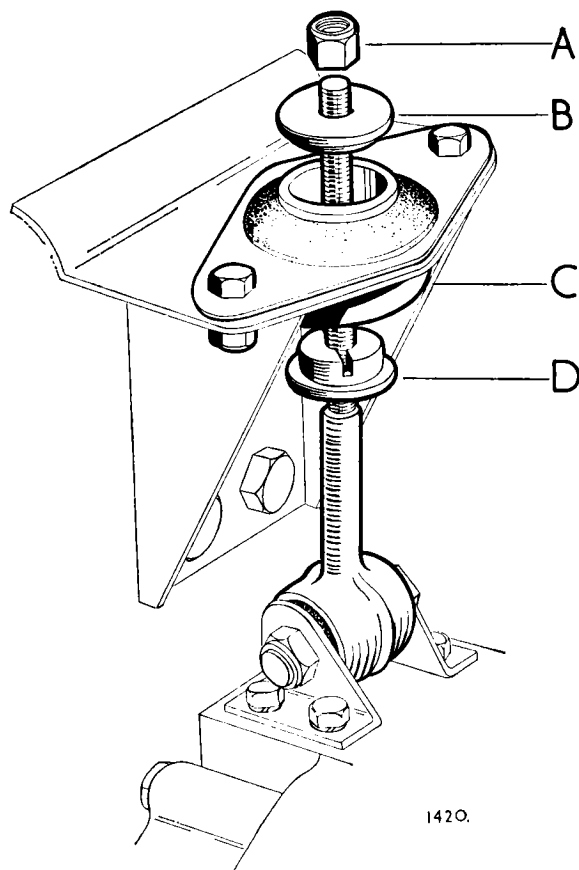

Fig. 78. *The rear engine stabiliser.*
Unscrew the self-locking nut A Fig. 78 on the engine stabiliser and remove the upper flanged washer B.
1. Screw the lower flanged washer (D, Fig. 78) up the stabiliser pin until the flange contacts the bottom of the stabiliser rubber mounting (C). The washer is slotted on its upper face and can be screwed up the pin by engaging a thin bladed screwdriver in the slot through the centre hole of the rubber mounting.
2. Fit the upper flanged washer (B) and tighten down with the self-locking nut (A).